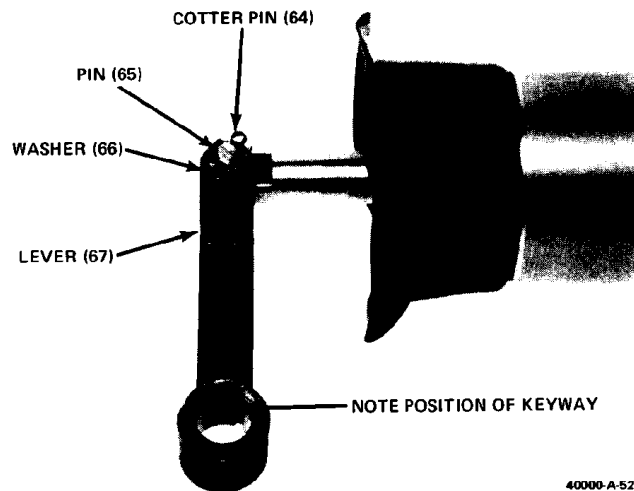
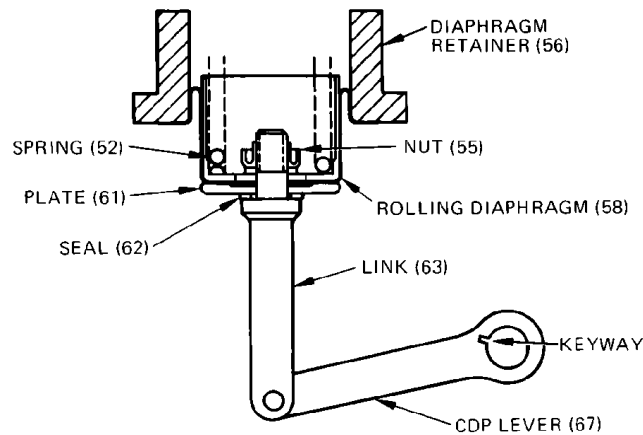

Figure 4-7. Lever to Link Assembly
Figure 4-8. CDP Diaphragm Assembly
16. Assemble lever (67) to link (63) with pin (65), washer (66), and cotter pin (64). See Figure 4-7.
17. Lubricate rolling diaphragm with Molykote and roll the diaphragm over the piston. Reverse roll the diaphragm (Figure 4-8) and place the diaphragm retainer (56) over the diaphragm (58) with the diaphragm lip flush with the retainer lip. Slide the retainer back and forth on the piston a couple of times, checking the diaphragm to be sure it is not crimped or creased.
18. Place O-ring (60) on diaphragm adapter bushing (59) and install the housing.
19. Refer to Figure 4-7 and insert the rolling diaphragm assembly, noting the position of the keyway for proper assembly.